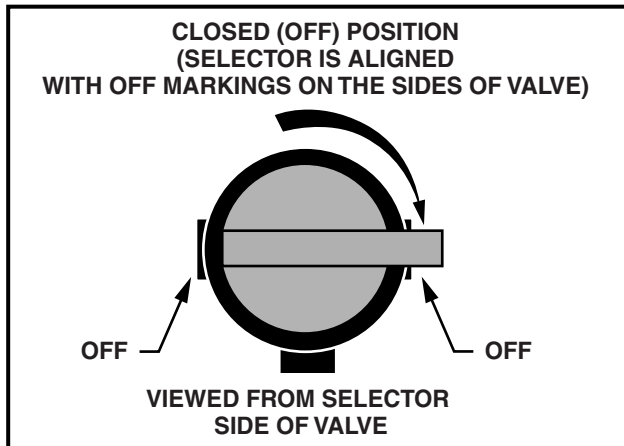

Figure 17 Fuel Shut-off Valve – Closed Position
- Gasoline vehicles only: Turn fuel shut-off valve to the closed (OFF) position (Figure 17, Page 29).
- Turn the fuel shut-off valve to the closed (OFF) position (Figure 17).
- 2.1. Place the Forward/Reverse handle in the NEUTRAL position and the neutral lockout cam in the SERVICE position. Turn the fuel shut-off valve to the closed (OFF) position (**Figure 17**) and run the engine until fuel remaining in the carburetor and fuel lines is depleted and the engine stalls. Return the neutral lockout cam to the OPERATE position.
- Turn fuel shut-off valve to the closed (OFF) position (Figure 17, Page 29).